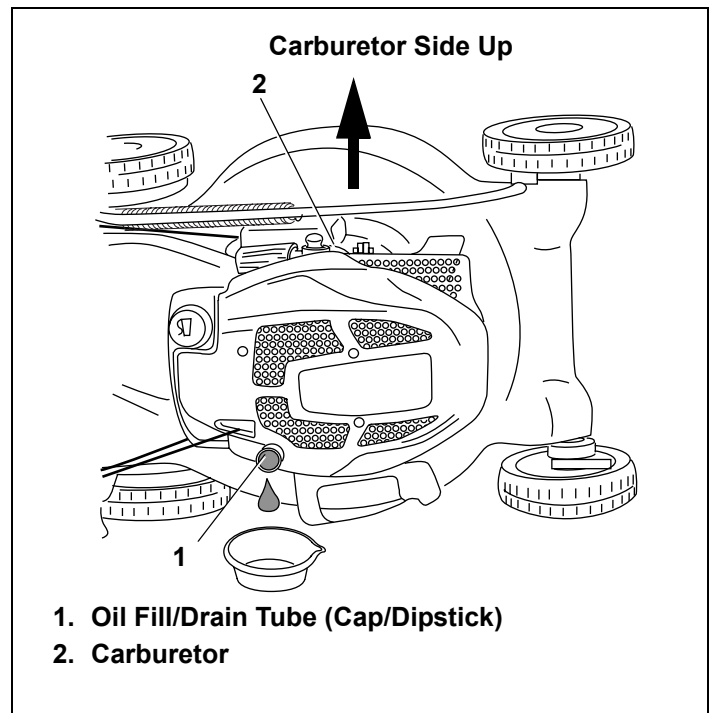

Figure 33. Draining Oil Sump
3. Carefully turn engine on the side with the carburetor side up. See Figure 33.
6. Tip engine with the carburetor side up to position the oil flow, so it will drain from the lowest point on the engine (see equipment manufacturer's instructions). See Figure 33.